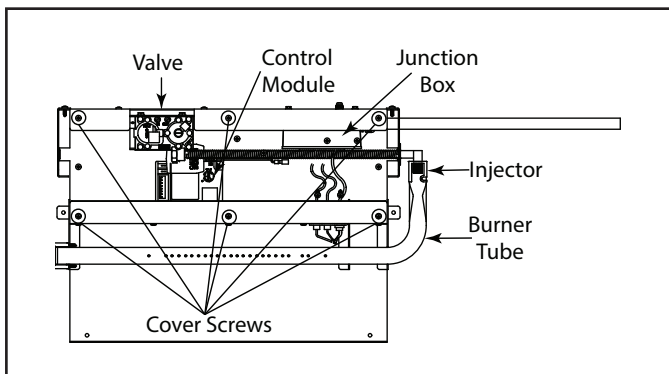

Figure 6.1 Burner Assembly
The valve and controls are located inside the burner assembly. See Figure 6.1.
The control box and controls can be accessed by removing the top cover plate secured with six (6) screws shown in Figure 6.1